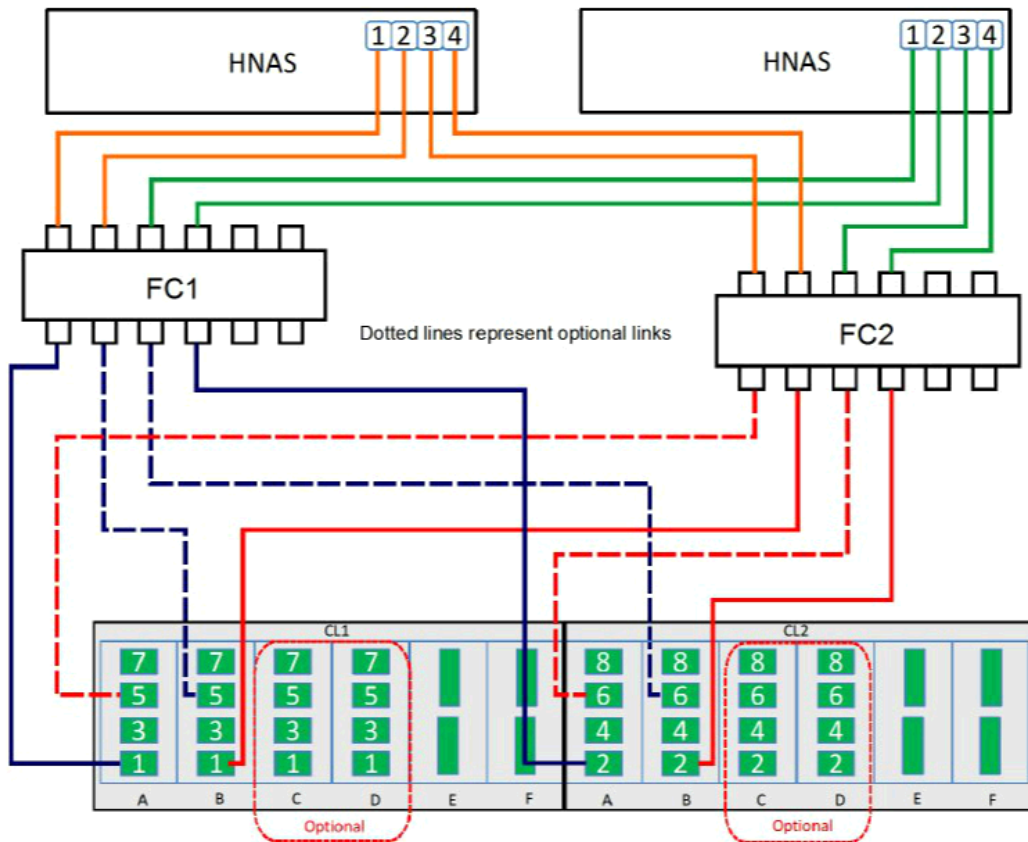

Figure 8 - Connectivity for a two node cluster, switch-attached configuration
- Figure 8 shows an HUS VM with 4 Channel Boards, in general spread out connectivity across Channel Boards. Configurations may be different if remote replication or virtualization is used.